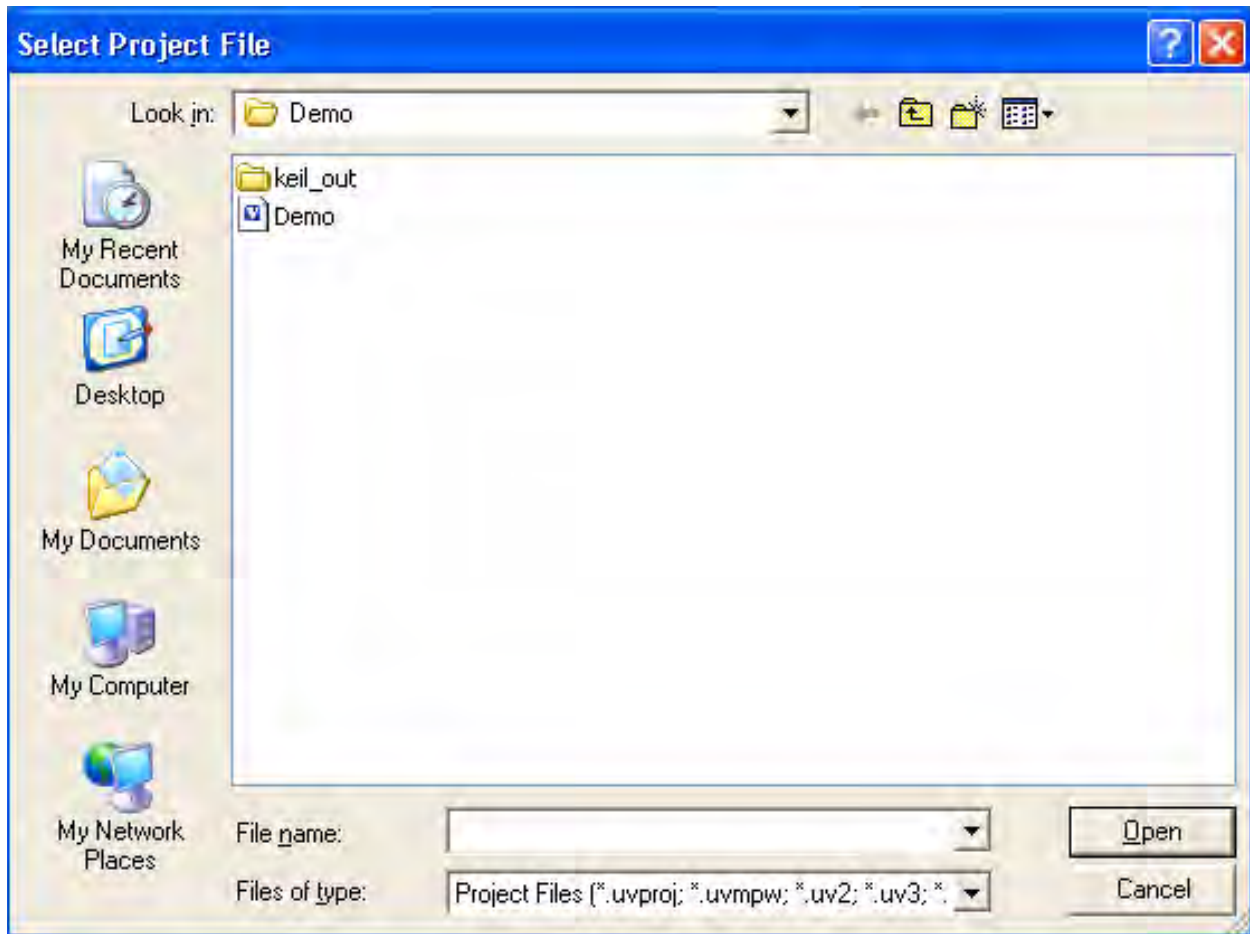

Figure 22. Selecting the Demo Project File
3. Select the `Demo.uvproj` file and click **Open**; see Figure 22.